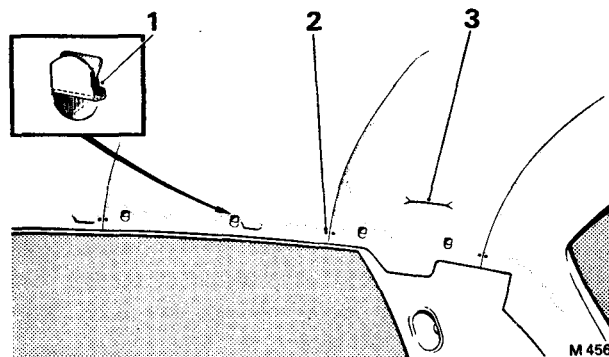

FIG. S118 POSITION OF THE HEAD LINING SECURING CLIPS AND TACKS (4-Door Saloon and Long Wheelbase Cars)
(a) **4-Door Saloon and Long Wheelbase cars.** Fix the extremities of the head lining to the body with Dunlop S1127 adhesive or its equivalent. Secure the head lining at each end of the listing bars with two drive nails, one each side of the listing bar, ensuring that the head lining is free from wrinkles. Using a sharp knife, trim the surplus material from the head lining; make shallow 'V' shaped cut-outs in the material where it fits into the rear window and windscreen aperture. Cut holes in the sides of the head lining to align with the clip holes in the body pressing along the cantrail (see *Fig. S118*); fit the retaining clips.
5. It will be necessary to slit the new head lining at the appropriate positions to accommodate the roof lamp electrical leads (see *Fig. S118*).